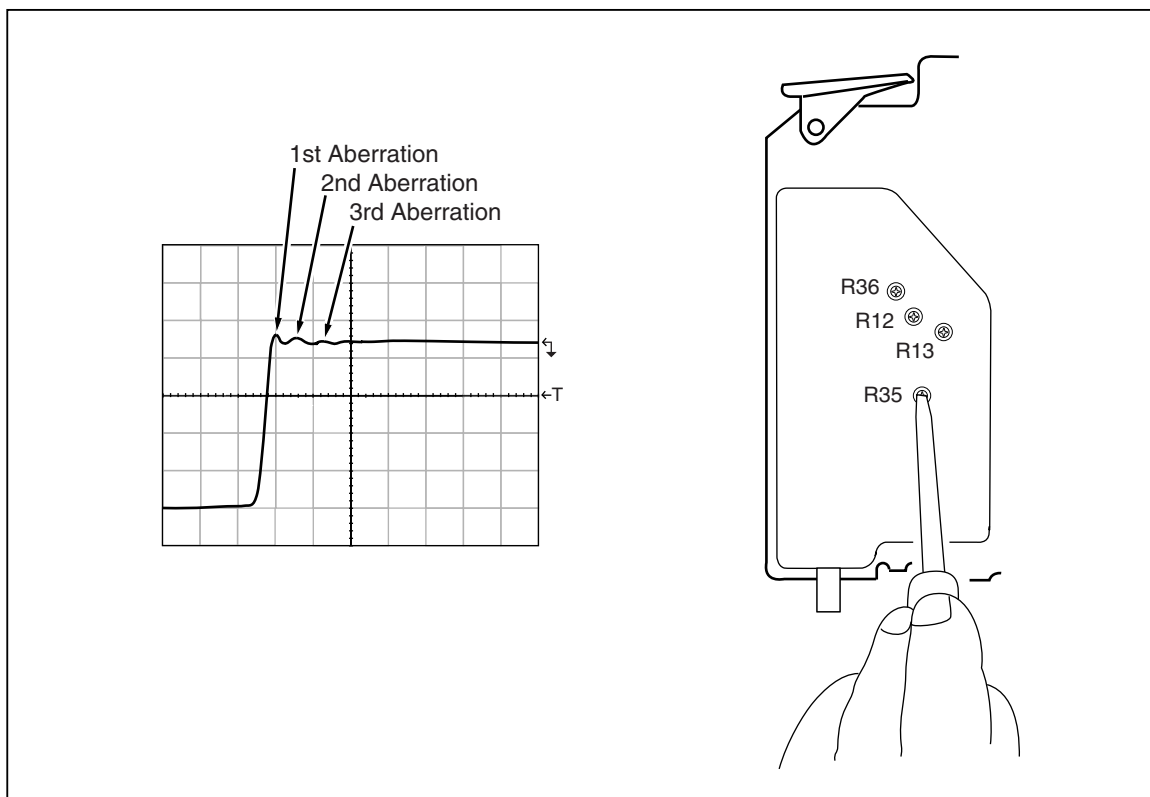

Figure 20. Edge Aberrations Adjustment
6. Set the oscilloscope to show the 90 % point of the edge signal. See Figure 20. Record this voltage (or set to the center of the display) as it will be used as a reference for future adjustments.